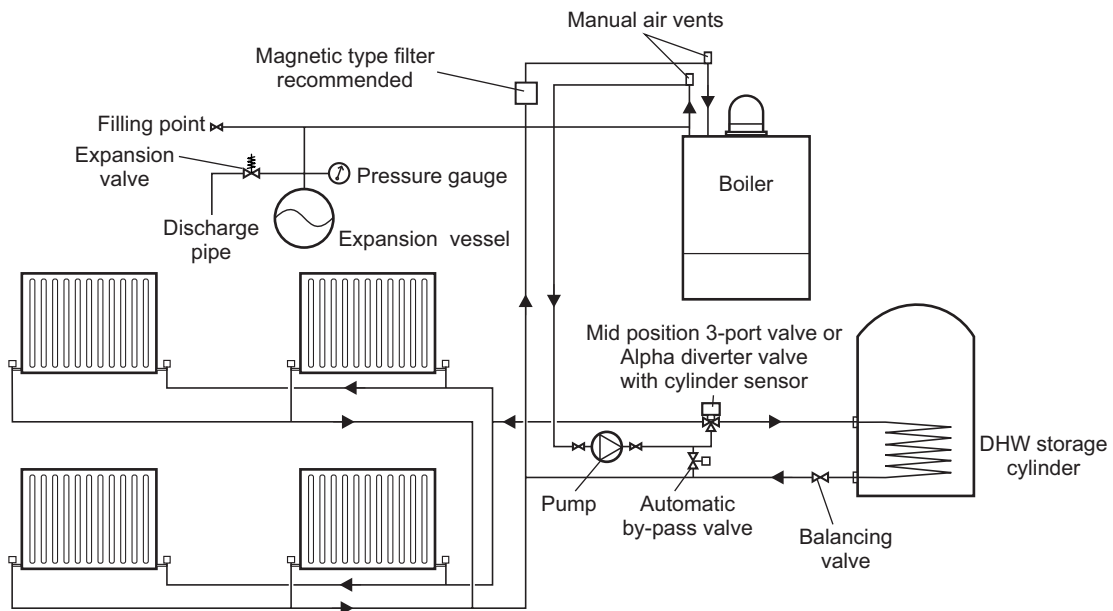
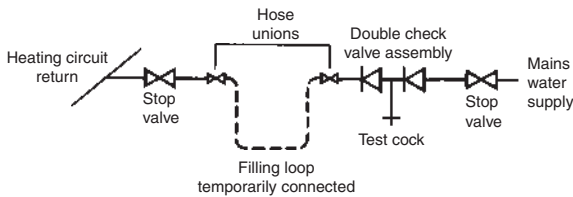
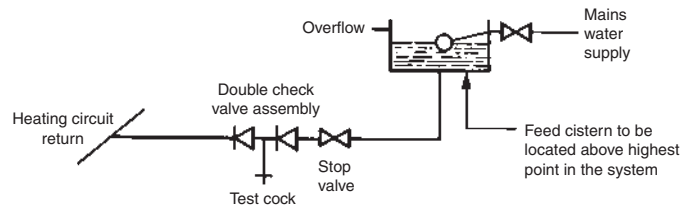

Fig. 4.6 - Sealed system with Y-Plan
Fig. 4.7
Fig. 4.8
4.9 FILLING THE SEALED CENTRAL HEATING SYSTEM - Figs. 4.7 and 4.8
Provision should be made to replace water lost from the system. This can be by manual or automatic means, as shown in Figs. 4.7 and 4.8. The position for connecting an automatic make-up vessel is indicated in Fig. 4.6. A double check valve assembly must be used, as shown in Fig. 4.8.
Filling of the system must be carried out in a manner approved by the local Water Undertaking. Where allowed, the system may be filled via a temporary connection as shown in Fig. 4.7. After filling, always disconnect the flexible hose of the filling loop.